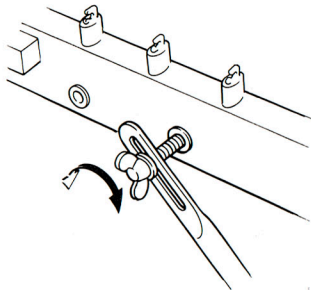

Fig 3
- 3 Attach the rails and lower crossbar support with the slant supports by aligning the slant supports with the screw hole on the outer side of the rail (B-F). Tighten the wing bolts. (Fig 3)